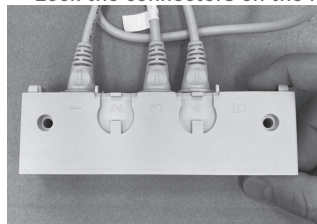

Fig.9
- Lock the connectors on the Hub with the plastic fastener. (Fig.9)
Push the pedal several times to increase the height of the bed as shown in Fig.9 (ref.A), keep pushing deep the pedal to decrease the height of the bed (ref. B).